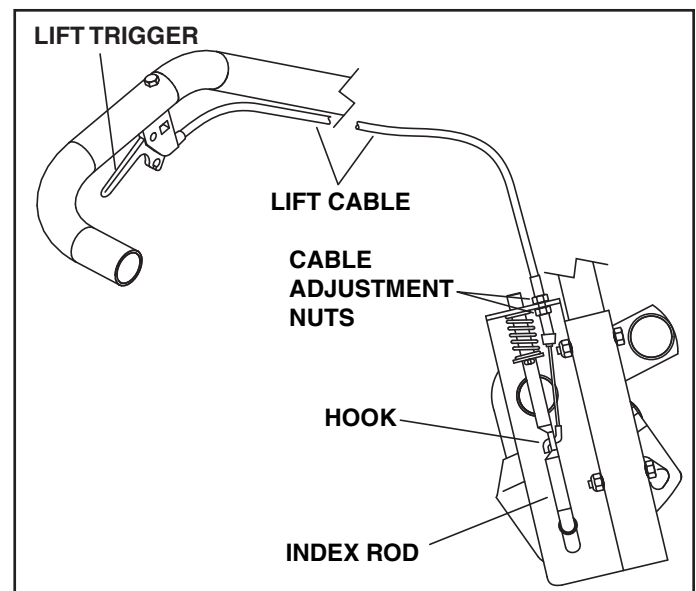

FIGURE 12
STEP 13: INSTALL LIFT CABLE (SEE FIGURE 12)
- Attach the lift cable to the lift handle using three cable ties (OO).